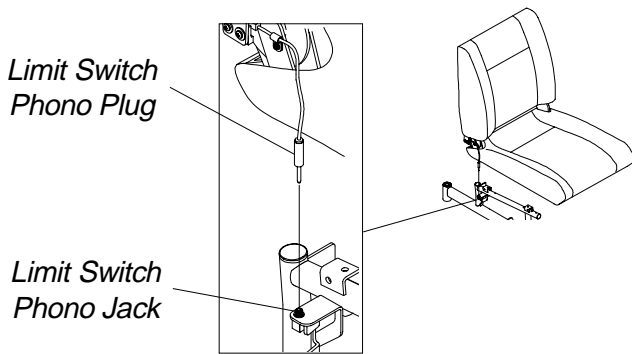

FIGURE 3 - DISCONNECTING/CONNECTING LIMIT SWITCH
**DISCONNECTING/CONNECTING LIMIT SWITCH (FIGURE 3)**